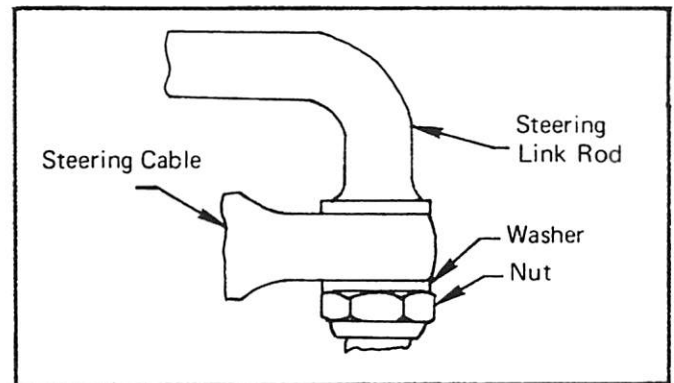

Figure 8. Steering Cable Attachment
*NOTE: If kit is disassembled for any reason, reassemble as shown in Figure 8.*
4. Assemble cable on steering link rod, as shown in Figure 8.